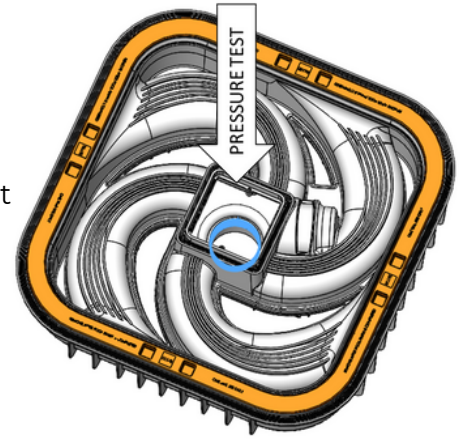

Figure 10
- a. Pressure Test:** Before installing shotcrete or gunitite, run a pressure test at the center port of the drain. (See Figure 10).